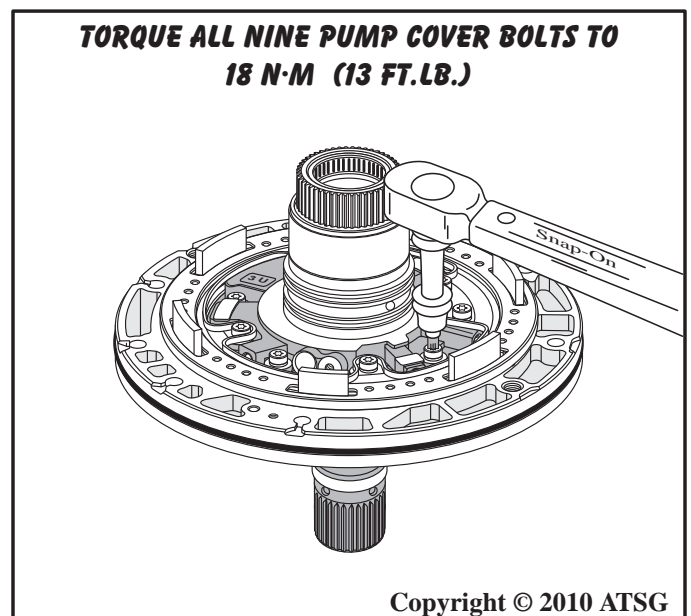

Figure 163
16. Torque all nine of the oil pump retaining bolts to 18 N·m (13 ft.lb.) (See Figure 163).